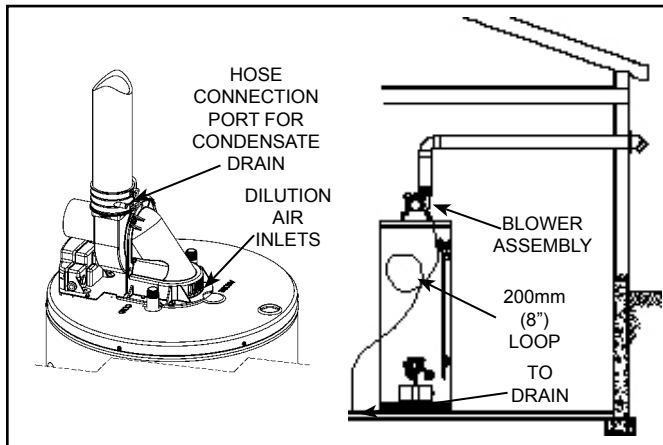

Figure 24.
1. This power vented water heater comes with blower assembly installed (see Figure 24).
This heater requires room air to lower the flue gas temperatures before the gases pass through the vent system. The dilution air inlets are located on the rear of the blower assembly (see Figure 2 & Figure 24).
Condensate formation does not occur in all installations of power vented water heaters, but should be drained on installations where it can form in the venting system. Condensation in the venting system of power vented water heaters is dependent upon installation conditions including, but not limited to, ambient temperature and humidity of installation location, ambient temperature and humidity of venting space, vent discharge and slope, and product usage. In certain conditions, installations in unconditioned space or having long horizontal or vertical vent runs can accumulate condensate. Long lengths of venting that pass through cool/cold areas will experience condensation. The vent pipe should be sloped upwards away from the blower assembly, then adequate means for draining and disposing of the condensate needs to be made by the installer. If installation conditions cause condensation, install a condensate trap loop approximately 200mm (8") in diameter using 3/8" plastic hose. Connect the hose to the built-in drain port of the rubber coupling of the blower assembly (see Figure 24). Loop the hose in a vertical position as shown. The tube loop must be filled with water at least half way prior to operating the heater. Ensure the end of the tube has access to a drain as condensate will flow from the end. Secure the tubing to the side of the heater. Prior to operating the water heater, make sure the removable cap is installed on the drain port (if a drain hose is not needed).